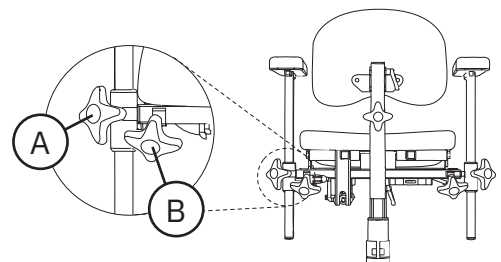

Figure 5.14. PLUS armrest.
The height (A) and the width (B) of the PLUS armrest are adjustable, see Figure 5.14.